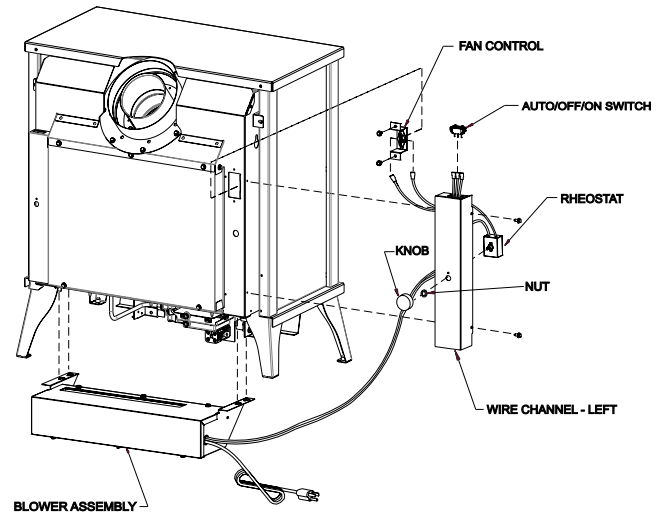

Figure 39
10. Bend the fan control tab, located on the left side of the back of the unit, inward toward the unit. **See Figure 39.** Be sure tab is bent at least 90 degrees to allow fan control bracket to slide into slot.